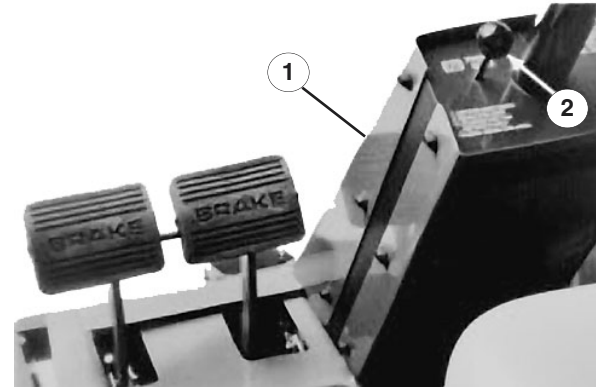

Figure 34
2. Remove the (6) screws securing the front steering tower cover to frame and remove the cover (Fig. 34).